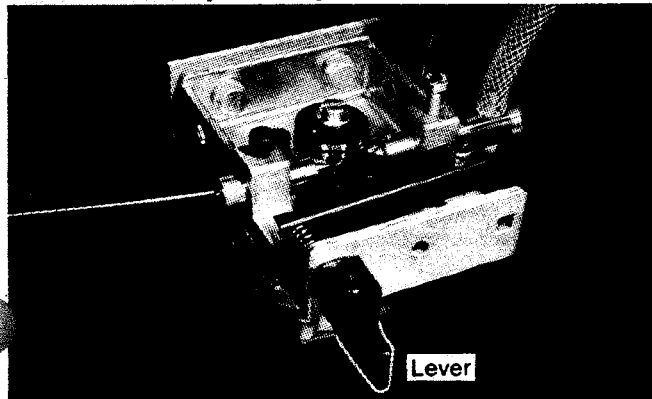

Figure 12
10. Thread the wire through the brass guide tube of the drive assembly past the drive and idler rollers then into the torch end. Make certain the wire is started in the liner of the torch assembly. See Figure 12